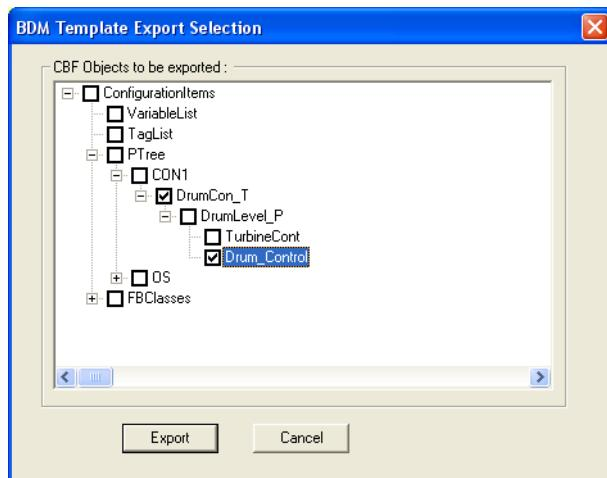

Figure 15. BDM template export selection dialog
4. Click **Export** in the BDM main dialog box. **BDM export selection** dialog is displayed as shown in Figure 15.